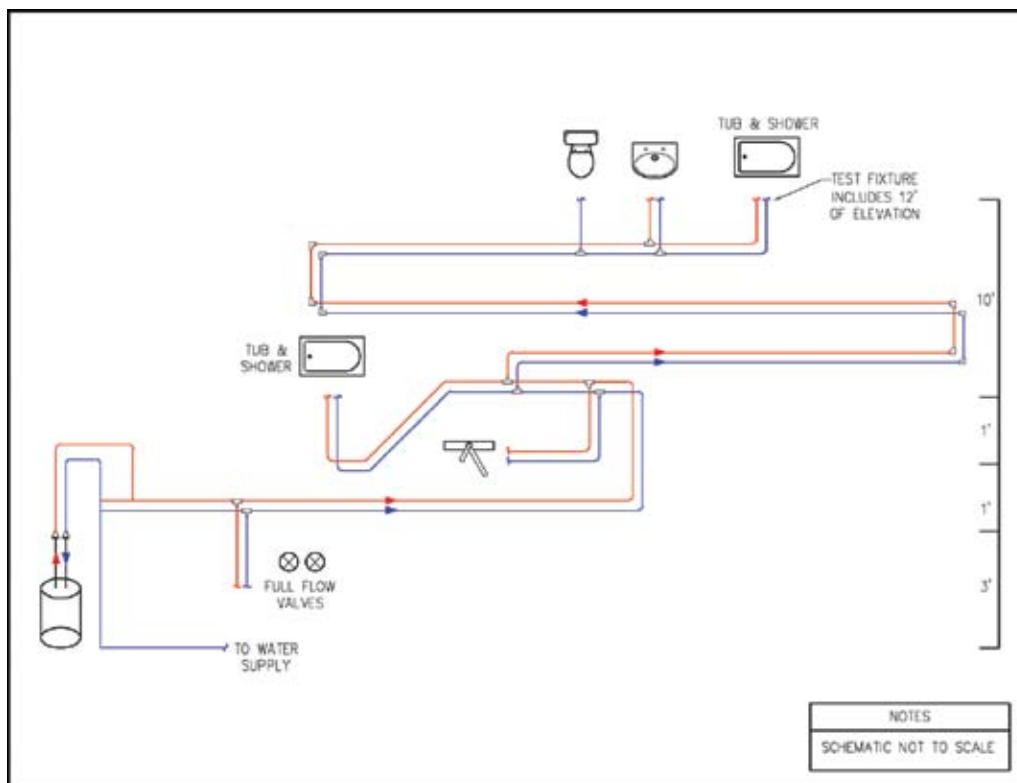
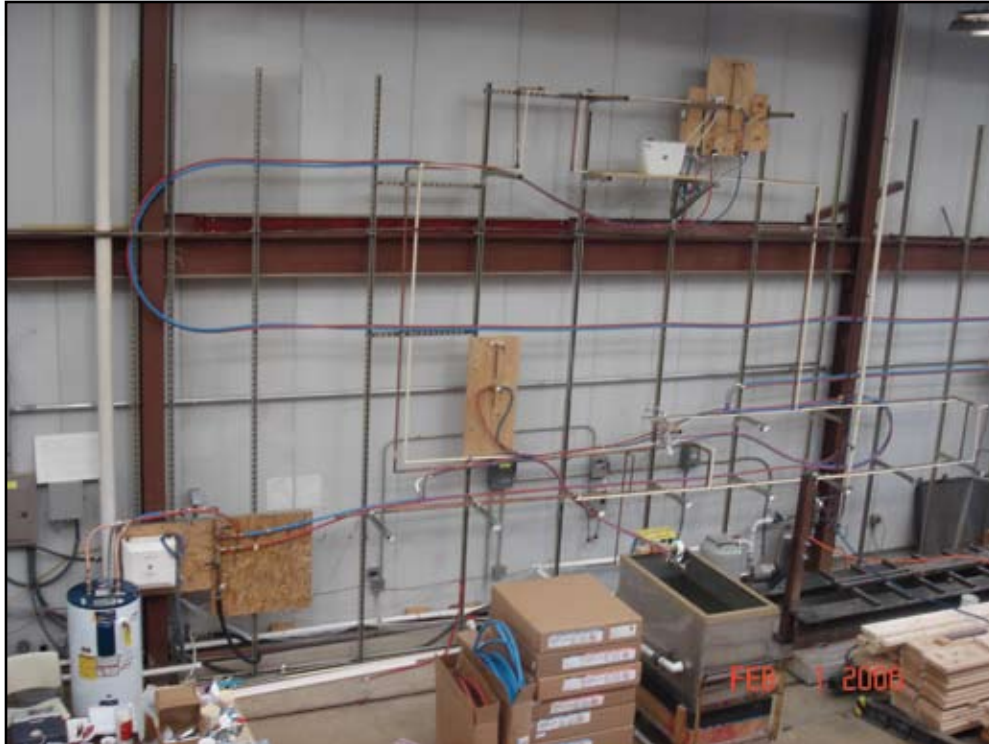
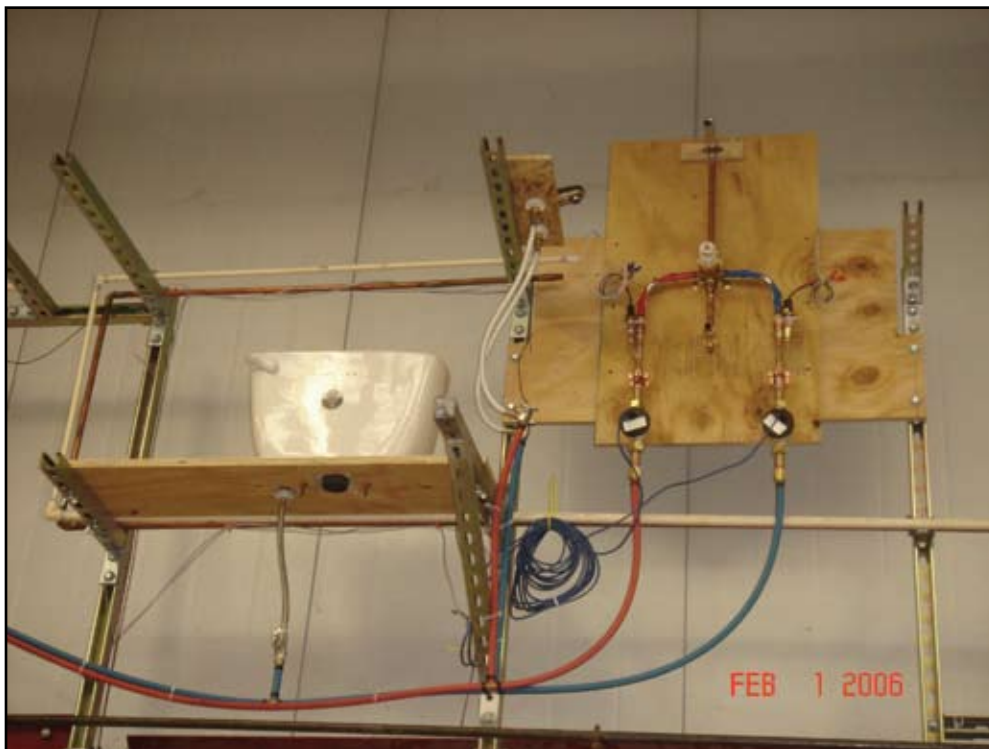

Figure 8.1 – Fixture Layout for Laboratory Testing
Figure 8.2 – Laboratory Test Set-up with Five Outlets, Hot Water Tank, and T&B System
Figure 8.3 – The Test Fixture (Shower) with Flow and Pressure Sensors Installed
supply adequate flow and pressure to a remote test fixture while other fixtures are operated simultaneously. The test system was constructed and reconfigured for each type of PEX plumbing design, including the standard trunk and branch (T&B), the home-run (HR), and the remote manifold (RM). A primary Test Fixture (TF), represented by a tub/shower unit, was installed and instrumented to measure flow rate and flow pressure on the hot and cold lines, as well as mixed water temperature. Figure 8.1 shows the laboratory system diagram for the T&B system. Other test system designs are shown in Appendix A. The TF was located the farthest from the source of all the fixtures, and was operated in shower mode during all tests. The operating performance of this test fixture represents the “worst case” characteristics of the full system, since all other fixtures were closer to the source. Figure 8.2 shows the laboratory set-up configured with the fixtures and the T&B system design with 100-foot distance to the TF. Figure 8.3 shows the TF with the sensors for pressure and flow installed.